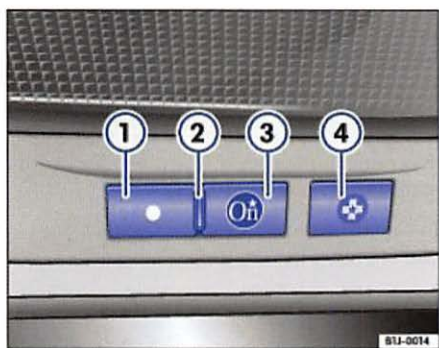

Fig. 4 OnStar emergency button
– In an emergency, press the button ⇒ fig. 4 ④ to connect with an OnStar Advisor.